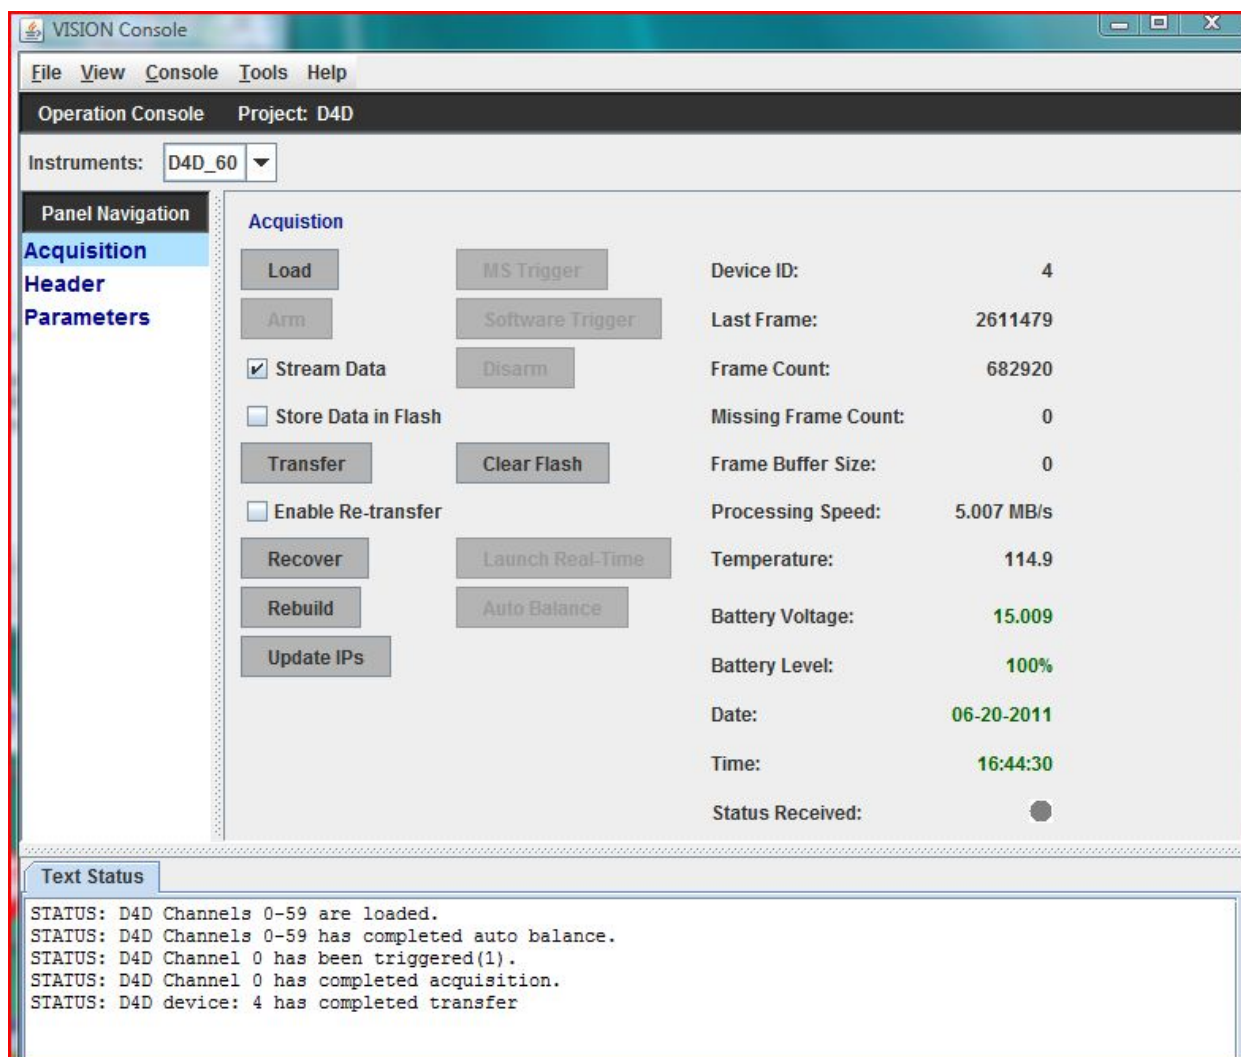

Figure A-17. D4D acquisition panel after transfer.
n. When all channels have triggered, the operator can initiate TRANSFER. Since the data were already streamed to the hard drive, this is really a misnomer. However, for consistency with the VHSD, the term was retained. During this process, the data for selected channels will be transferred to an HDF5 file with all meta-data. The streamed data file with all 60 channels per unit is stored in BTSX\<date>\Raw and the HDF5 file is stored in BTSX\<date>. See Figure A-17.